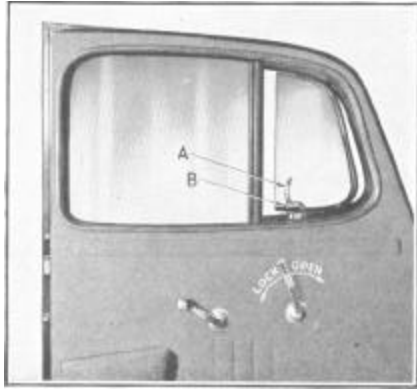

Figure 62
The front door windows are divided into two sections which are controlled individually. The front section or ventilating wing is of the friction type and is operated by handle (A), Figure 62. This handle also acts as a locking device when the wing is
Door windows can be lowered by turning the regulator handles in clockwise rotation. See Figure 62.
The doors may be locked from the inside by turning the handles to the right as illustrated in Figure 62. Turning the handles in the opposite direction opens the door.